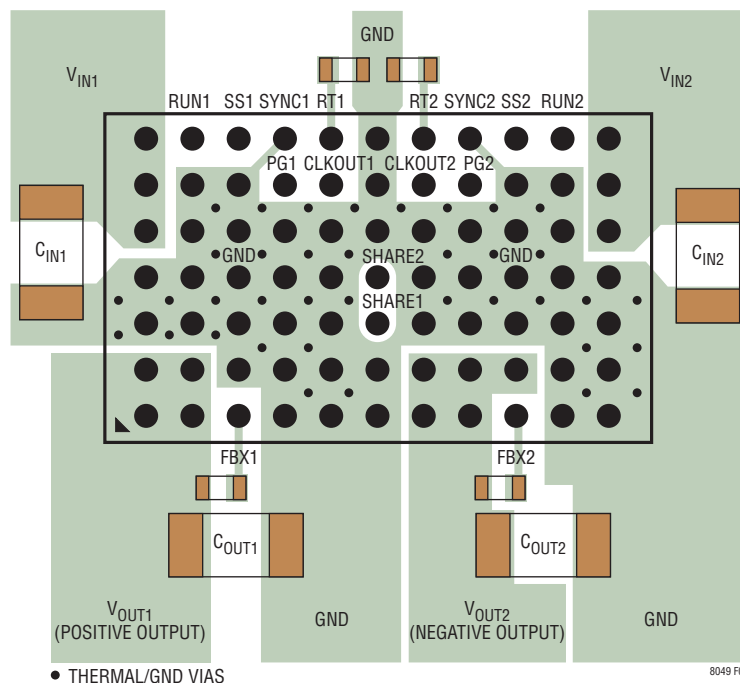

Figure 2. Layout Showing Suggested External Components, GND Plane and Thermal Vias
Most of the headaches associated with PCB layout have been alleviated or even eliminated by the high level of integration of the LTM8049. The LTM8049 is nevertheless a switching power supply, and care must be taken to minimize EMI and ensure proper operation. Even with the high level of integration, you may fail to achieve specified operation with a haphazard or poor layout. See Figure 2 for a suggested layout. Ensure that the grounding and heat-sinking are acceptable.
6. Use vias to connect the GND copper area to the board's internal ground planes. Liberally distribute these GND vias to provide both a good ground connection and thermal path to the internal planes of the printed circuit board. Pay attention to the location and density of the thermal vias in Figure 2. The LTM8049 can benefit from the heat-sinking afforded by vias that connect to internal GND planes at these locations, due to their proximity to internal power handling components. The optimum number of thermal vias depends upon the printed circuit board design. For example, a board might use very small via holes. It should employ more thermal vias than a board that uses larger holes.